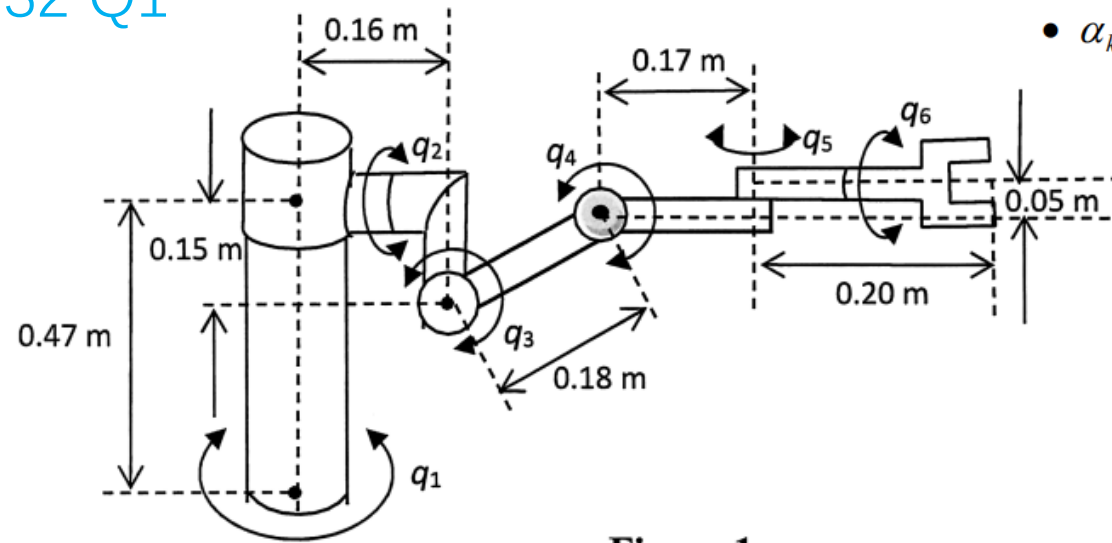

Figure 1
1. A robotic manipulator with six joints is shown in Figure 1.